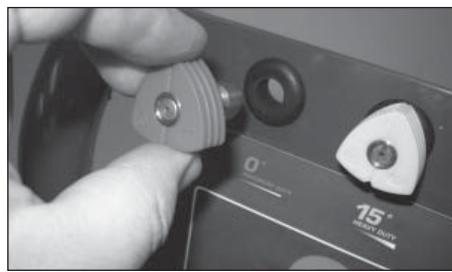

Figure 6 - Insert spray nozzles into the holder
- Insert quick connect spray nozzles into rubber holders on front of the placard. (See Figure 6).